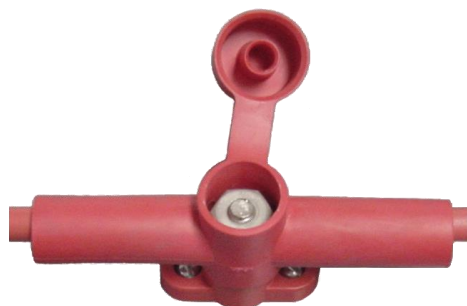

Figure 8 – Assembled J-Post – FOR REFERENCE ONLY
5. Secure ring lug and boat harness wire with the washer and nut as shown below in Figure 8.